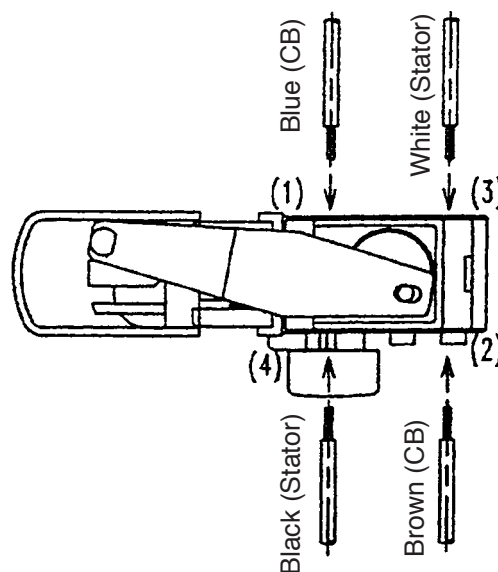

Fig. 36 Wiring of reversing switch
(1) Wiring of reversing switch
Insert the lead wire (black) coming from the stator into the terminal (4) of the reversing switch, and the lead wire (white) into the terminal (3) as shown in Fig. 36.